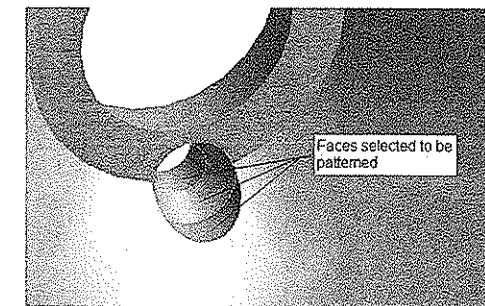

Figure 5-26 Faces of the revolved cut feature selected to be patterned
3. Press the CTRL key and select the faces of the cut feature to be patterned, refer to Figure 5-26.